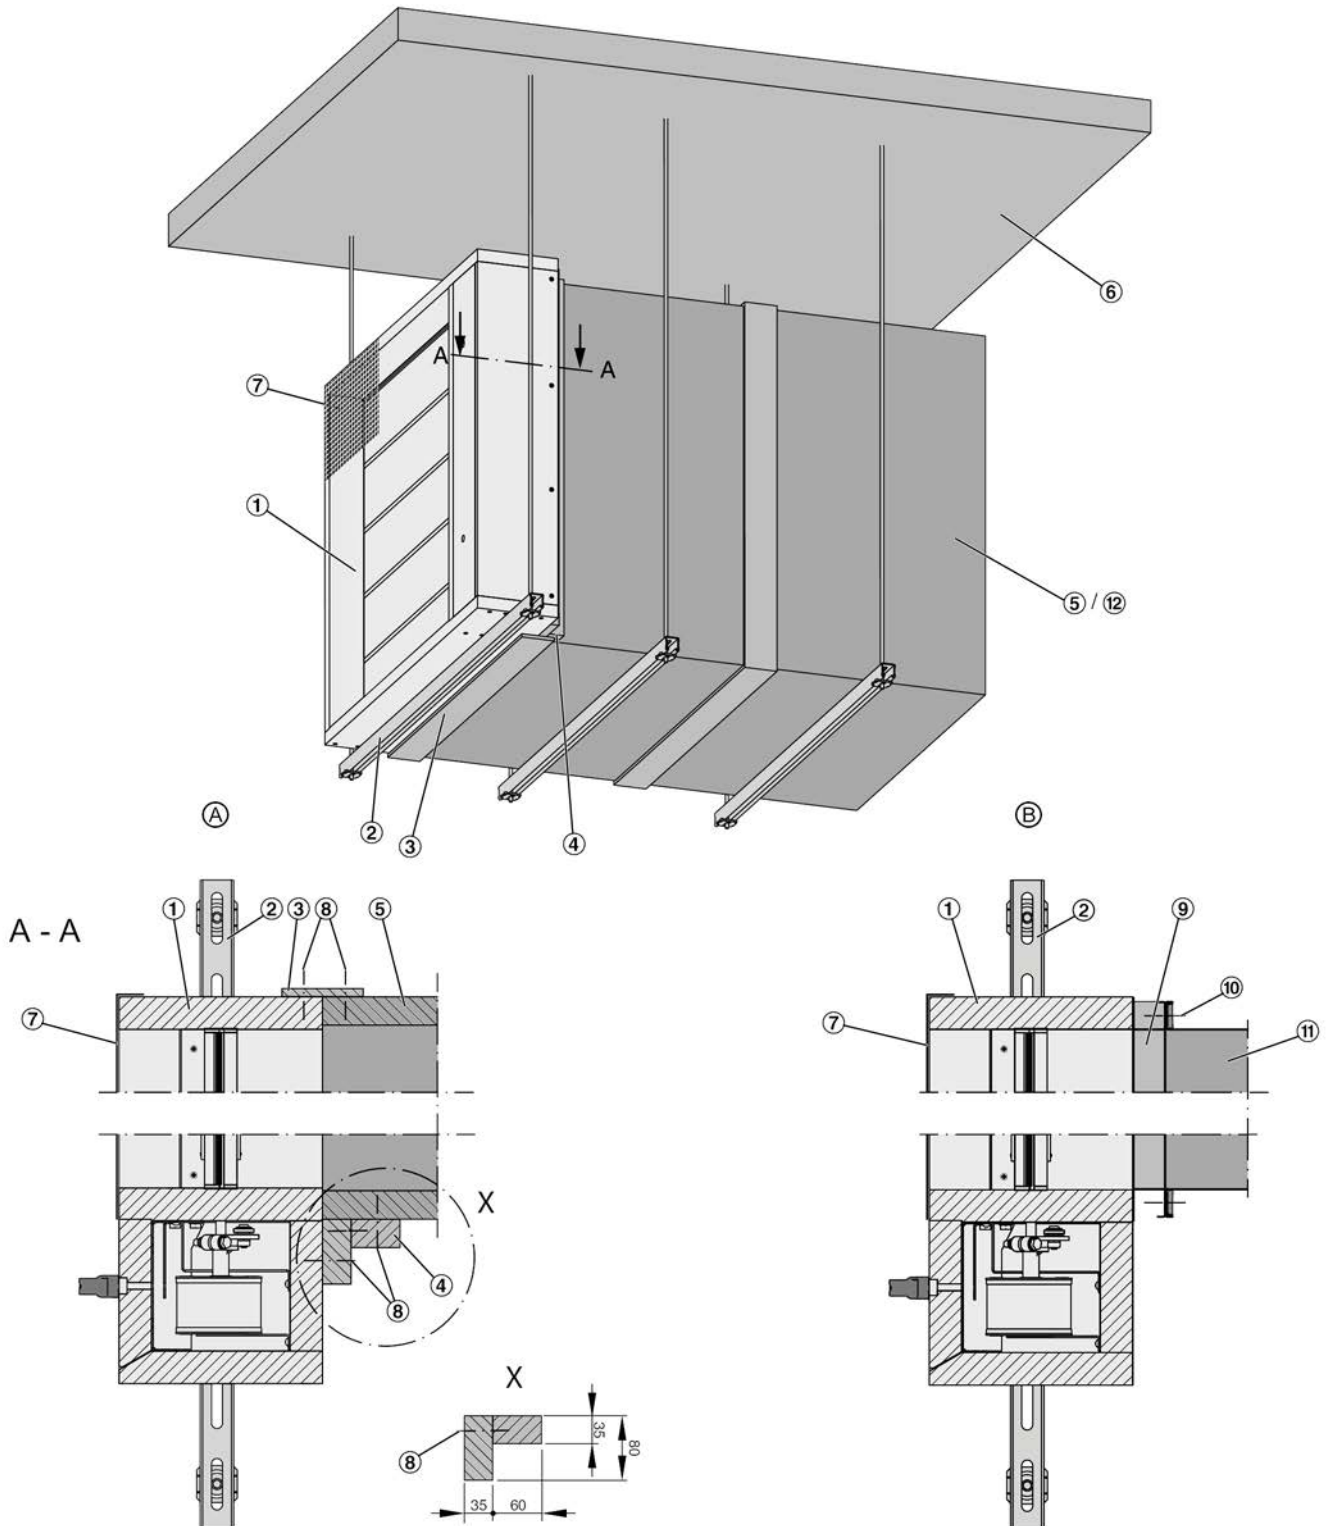

Fig. 33: Installation at the end of a horizontal smoke extract duct
3. ▶ Fix an angle section ( Fig. 33 /4) between the actuator encasing and the smoke extract duct.
4. ▶ Connect the fire-resistant smoke extract duct to the smoke control damper with a connecting strip ( Fig. 33 /3) ↪ 6 'Smoke extract duct and cover grille' on page 65 .
1. ▶ Suspend the smoke control damper ( Fig. 33 /1) with connecting subframes on both sides (optional; Fig. 33 /9) ↪ 5.9 'Suspending the smoke control damper' on page 64 .
2. ▶ Lead the smoke extract duct ( Fig. 33 /11) up to the smoke control damper and suspend it.
3. ▶ Screw-fix ( Fig. 33 /10) the smoke extract duct to the connecting subframe.